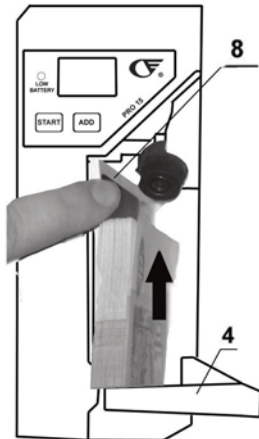
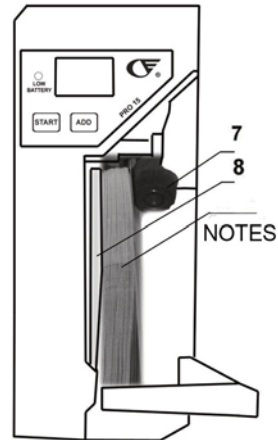

Figure 2
Figure 3
3.5 Place banknotes in a stack and insert them parallel to clamp plate (Fig. 1-8) as shown on Fig. 2, holding the clamp plate by forefinger against the guide plate at the end of the stack. The stack of banknotes should be placed against the clamp plate by their end and lay between clamp plate (Fig. 1-8) and counting roller (Fig. 1-7) see Fig. 3. This is the only position that will ensure an accurate count. 3.6 **REMEMBER!** If the banknote is positioned incorrectly, it can result in an incorrect count.